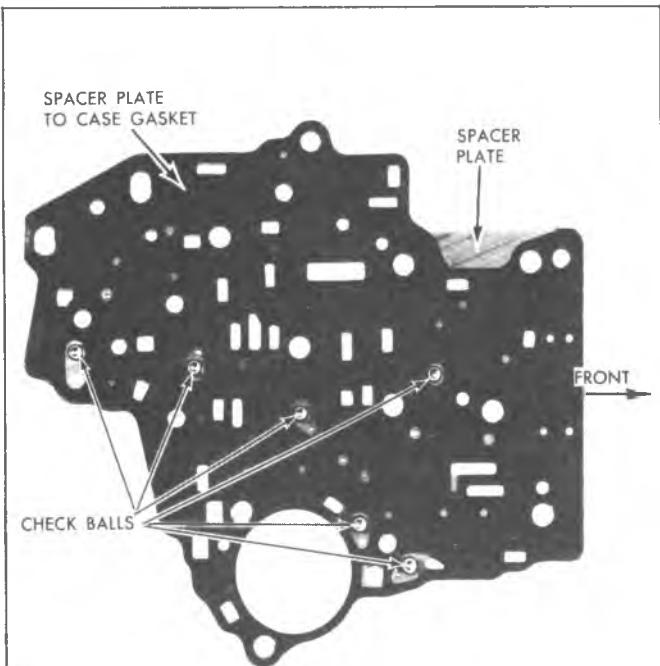

Fig. 142T-A--Location of Check Balls-In Vehicle Installation
2. Install six (6) check balls into ball seat pockets in transmission case. Figure 142T.
NOTE: If transmission is in the vehicle, install check balls into ball seat pockets on spacer plate (fig. 142T-A).